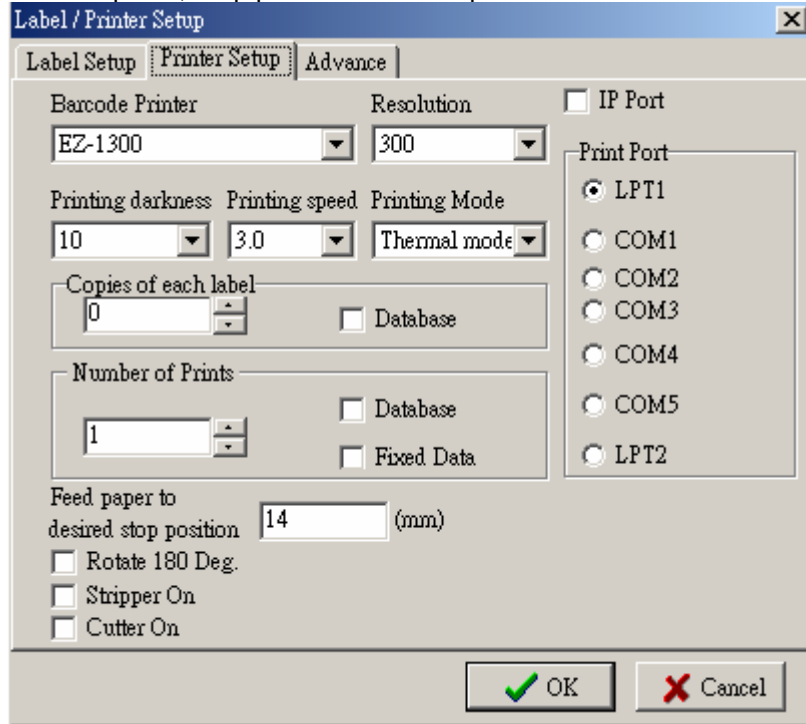

Fig.4.2
1. On the File menu, click Printer Setup. (refer to the Fig.4.2)